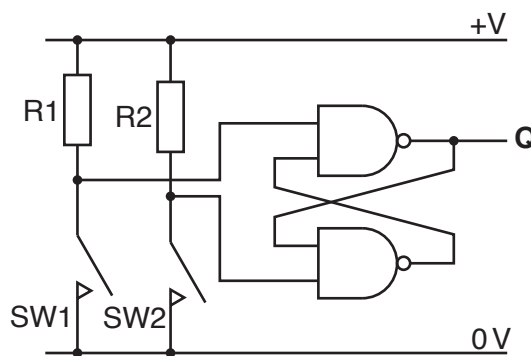
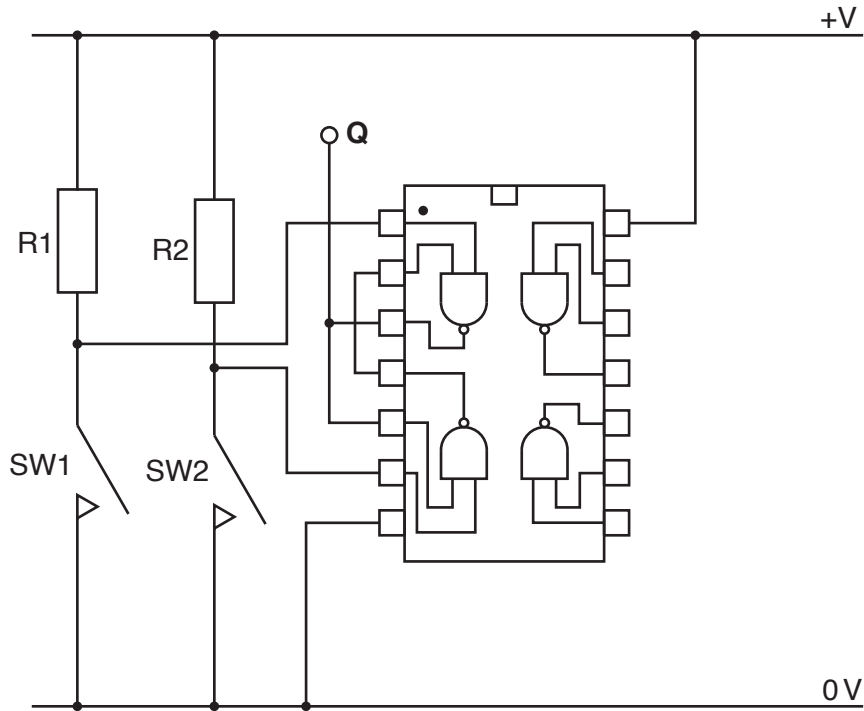

Fig. 16
Fig. 17
- (c) Fig. 16 shows an alternative method of latching a signal using NAND gates.
(iii) Fig. 17 shows a CMOS quad NAND IC. When used to make the latch circuit in Fig. 16 there will be two spare logic gates which must have the inputs connected to a logic level.